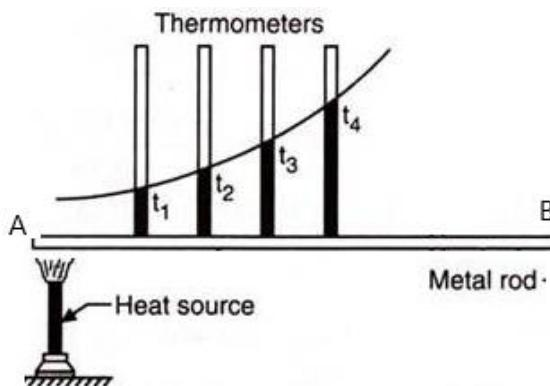

Fig:3.2.1
3.2.1: Conduction: - Consider a metal rod AB one end of it is placed on a flame as shown in fig 3.2.1